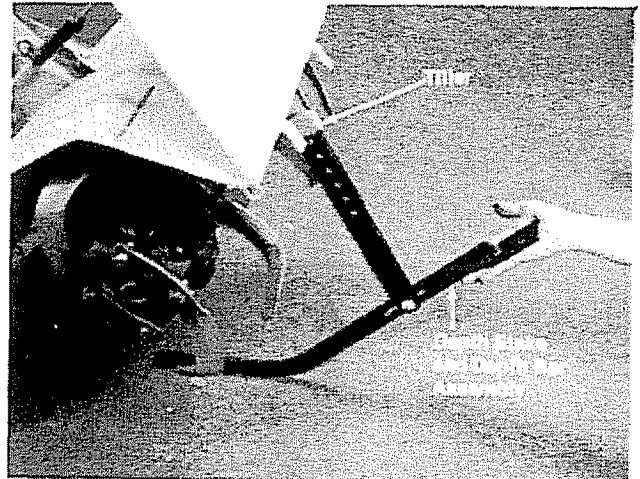

FIGURE 6.
- D. Tip the tiller forward, so it rests on counterweight. Slide depth stake up through tiller as shown in figure 6. Pull depth stake adjustment pin on tiller to lock in place.